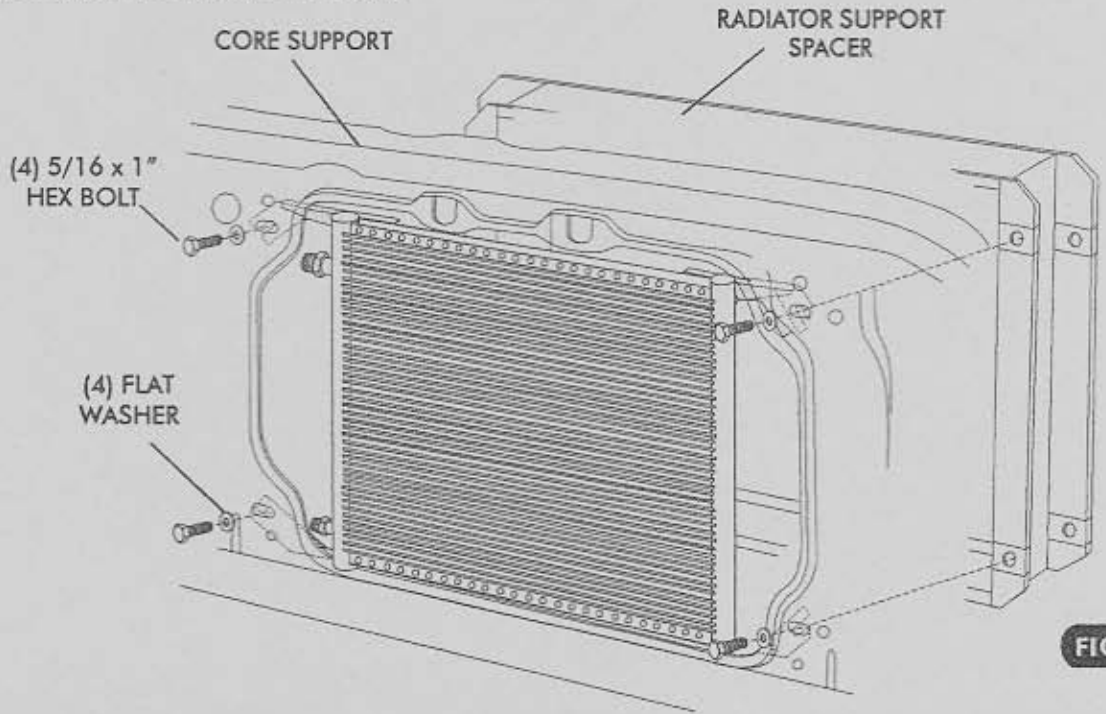

FIGURE 11
- USING (4) 5/16 x 1" HEX BOLTS WITH (4) FLAT WASHERS, SECURE THE CONDENSER TO THE CORE SUPPORT AND SPACER AS SHOWN IN FIGURE 11, BELOW.